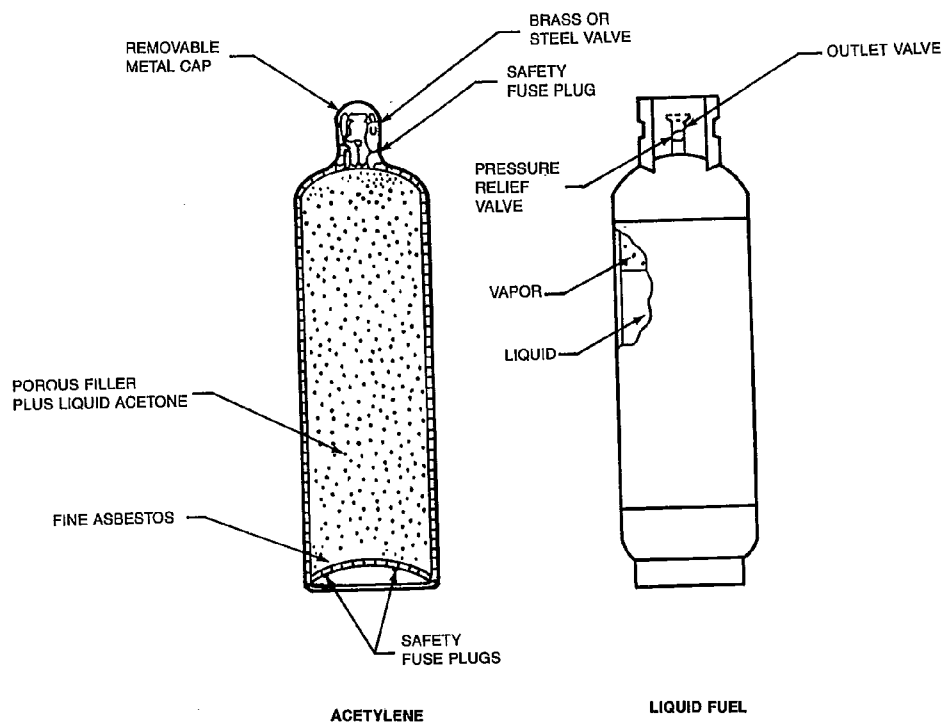

Figure 3—Fuel Gas Cylinders
3.2 Fuel Supply. Many different fuel gases are utilized in oxyfuel gas cutting. They include acetylene, propane, natural gas, methylacetylene-propadiene stabilized (MPS), propylene, hydrogen, and several propane or propylene base mixtures. The different fuel gases vary in flame characteristics. The oxyfuel gas cutter should become familiar with the proper flame adjustments for the fuel being used. A sufficient supply of fuel should always be available. Fuel gases are supplied in individual cylinders (Figure 3) or distributed by pipeline from manifolded cylinders or bulk sources. Never completely drain any cylinder or leave the valve open on "empty" cylinders. This could result in contamination of the cylinder.